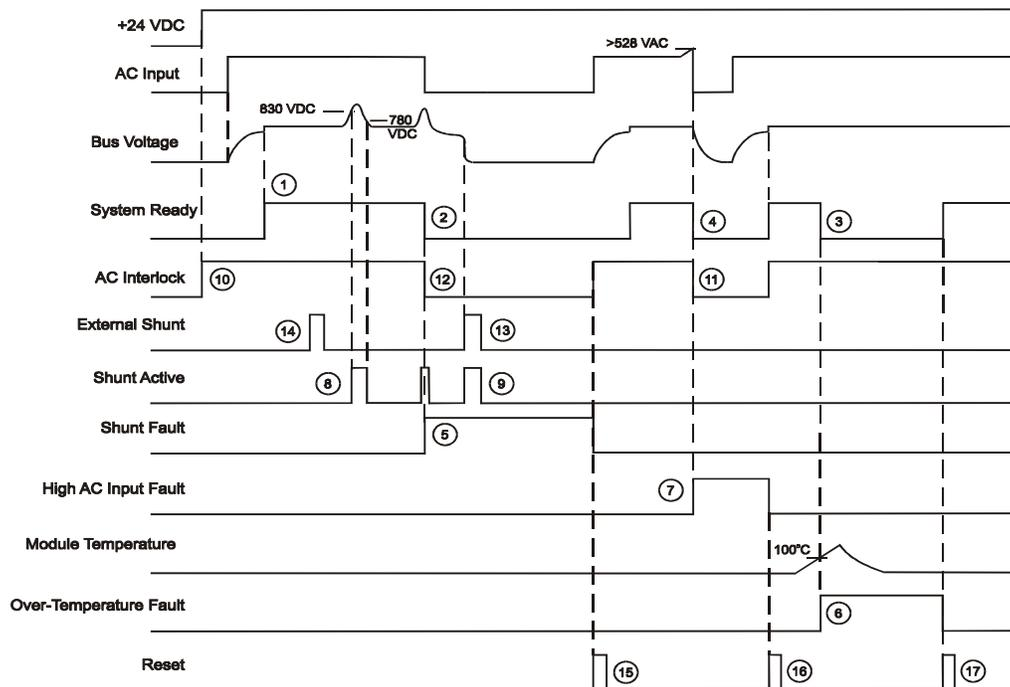

Figure 38: Power Module Logic Timing Diagram
The System Ready output is active (high) when the Power Module has completed the power-up sequence properly. ① (See Figure 38) Once this signal is active the Drive Module can be enabled. The System Ready output remains high during normal system operation and turns low in case of system fault.